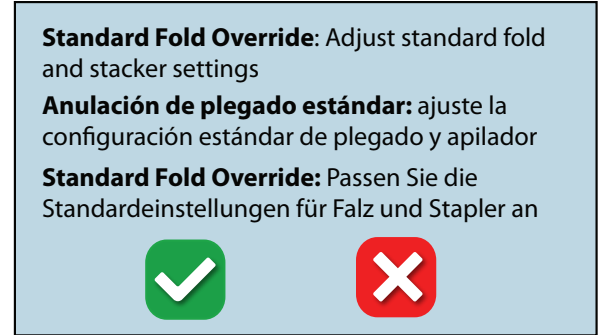

Fig. 26
2. “Standard Fold Override” warning will be displayed (Fig. 26). Press the green box with the check to continue or the red box with the X to exit and return to the operator screen.